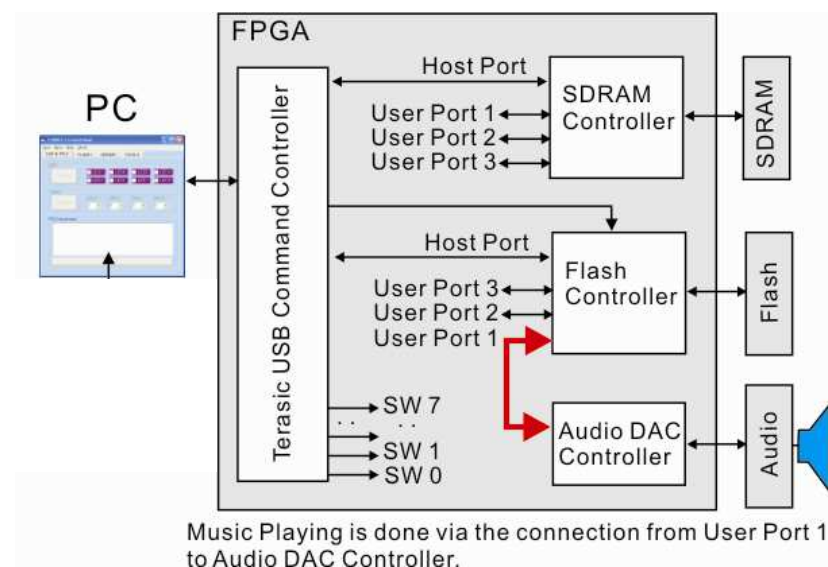
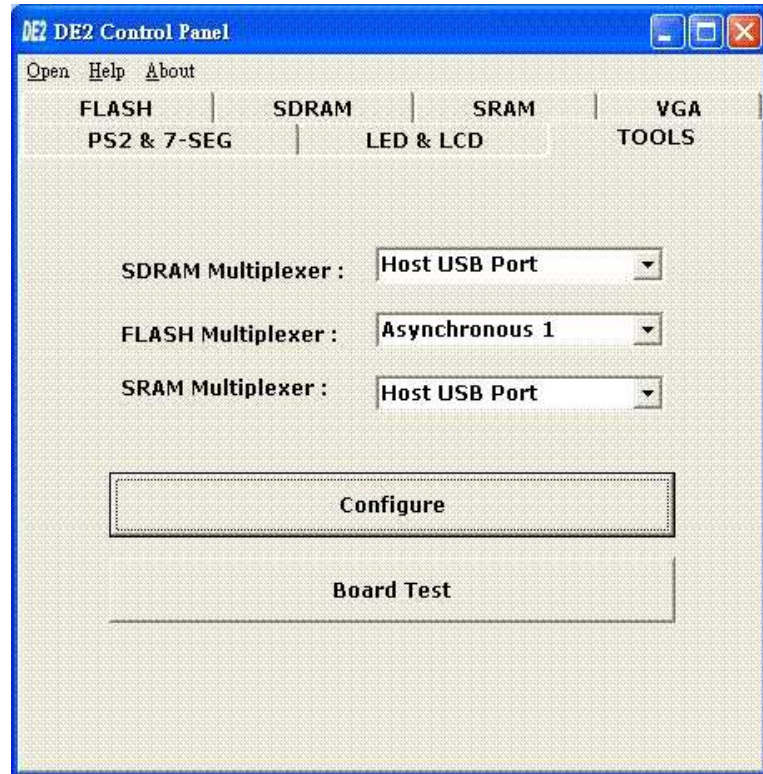

Figure 11.11. Block Diagram of The Multi-Port Flash Controller integration
Figure 11.12 DE2 Control Panel – The TOOLS page
- ✓ Figure 11.11 shows the concept of the multi-port SDRAM/Flash controller.
- ✓ In the DE2 Control Panel, click on the TOOLS button to reach the window in Figure 11.12.
- ✓ As illustrated in Figure 11.12, select the Asynchronous 1 for Flash Multiplexer and then click on the Configure button to activate the port. Note that you need to click the Configure button to enable the connection from the Flash Memory to the Asynchronous Port 1 of the Flash Controller indicated in Figure 11.11.